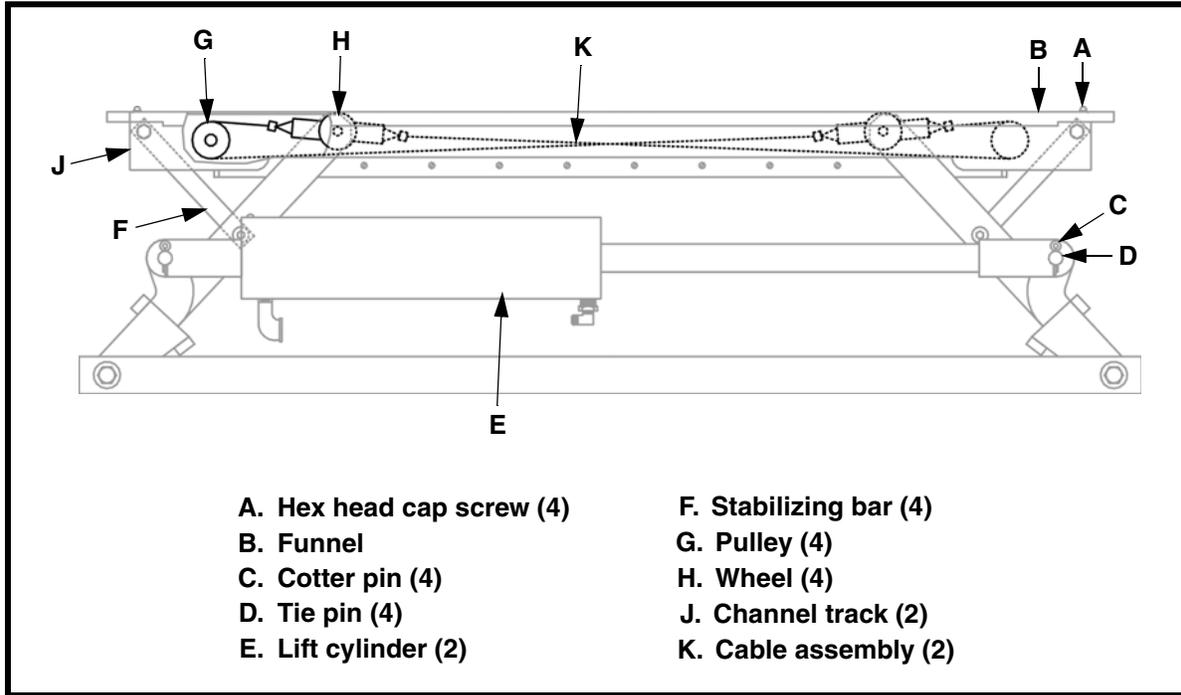

Figure 9. Replacing Cable Assembly
4. Remove four screws (A, Figure 9) holding funnel (B) to channel track.
7. Pull out cotter pin (C) and tie pin (D) from yoke side of cylinder (E) to release any upward pressure on the Boot-Lift® Railcar Connector.
8. Remove eight cap screws and washers from each channel track holding stabilizing bars (F) and pulleys (G).
9. Push stabilizing bars down out of the way and remove wheels (H).
10. Lift the channel track (J) so it will clear edge of pit and slide off frame.
13. Install new cable assembly (K), making sure it hangs like a figure eight over the wheels.